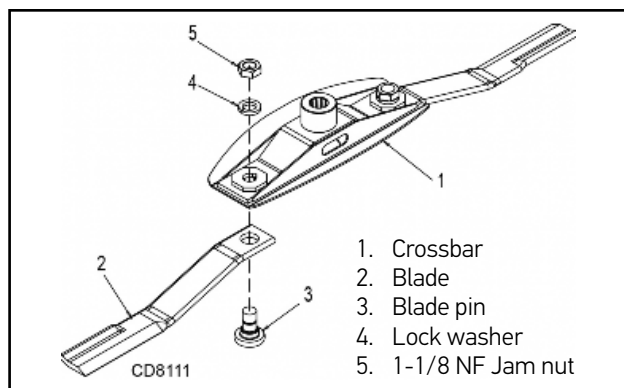

Figure 17. Blade Removal
2. To make crossbar removal easier, remove blades as shown in Figure 17.
3. Remove cotter pin and castle nut from bottom of crossbar, Figure 17.
4. Attach a clevis (1) to each end of crossbar, using blade pins, spacers, keyhole plates, and blade pin clips.
5. Position tube assembly (5) with threaded nut toward crossbar for puller screw removal or down for hydraulic jack removal.
6. For removal with puller screw, attach tube (5) to each clevis with bolts (2) and nuts (3). Place pad (4) in nut and thread puller screw (6) into nut from bottom. Tighten until pad is solid against gearbox shaft. For best results, strike head of puller screw with a hammer while tightening with a wrench.
7. For removal with a jack, attach tube to each clevis with puller links (7), bolts (2), and nuts (3). Place jack on tube with end of jack pressing against gearbox shaft. Slowly apply force with jack.